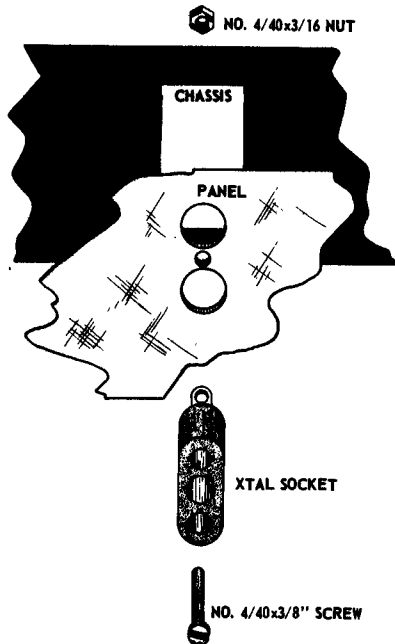

Figure 6.
- 46. Mount the XTAL-VFO socket X-1 from the front of the panel as per Fig. 6. Use a 4-40x $\frac{3}{8}$ " screw and a 4-40x $\frac{1}{2}$ " hex nut. Tighten securely.